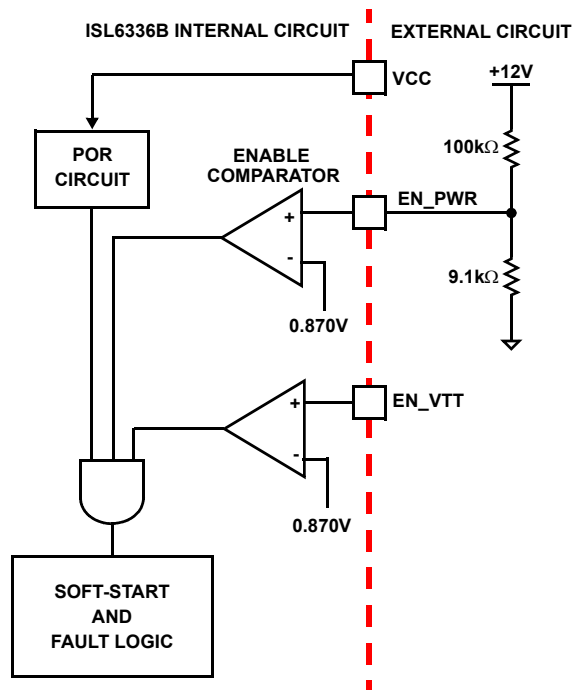

FIGURE 8. POWER SEQUENCING USING THRESHOLD SENSITIVE ENABLE (EN) FUNCTION
2. The ISL6336B features an enable input (EN_PWR) for power sequencing between the controller bias voltage and another voltage rail. The enable comparator holds the ISL6336B in shutdown until the voltage at EN_PWR rises above 0.870V. The enable comparator has about 130mV of hysteresis to prevent bounce. It is important that the driver ICs reach their POR level before the ISL6336B becomes enabled. The schematic in Figure 8 demonstrates sequencing the ISL6336B with the ISL66xx family of Intersil MOSFET drivers, which require 12V bias.